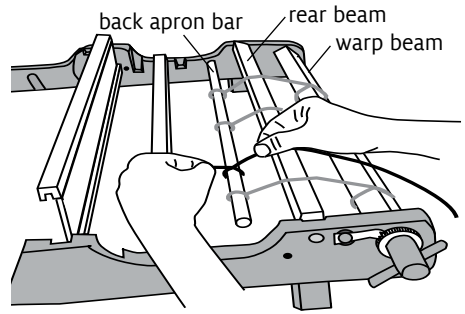

FIGURE 4: TIE ONTO THE APRON BAR
5. Bring the apron rod up over the warp beam and rear beam toward the heddle. Tie the end of the yarn to the apron rod at the place that will be the edge of your weaving (figure 4). Find the center of the heddle and then measure to the right half the width of your warp. (For example, if your warp is 10"